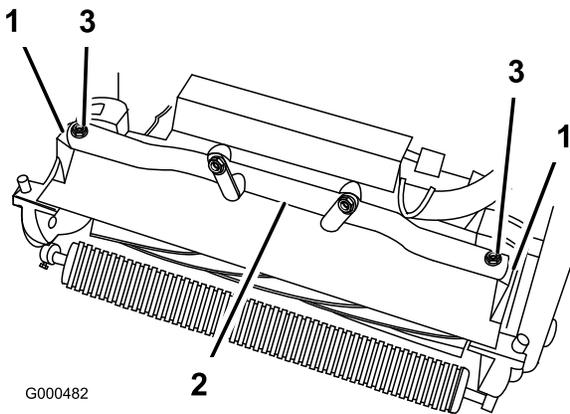

Figure 52
4. Remove (2) bolts securing cutting unit pivot arms to traction unit frame tube (Figure 52).
5. Rotate pivot arms forward (Figure 52) and rest traction unit on restrained kickstand.